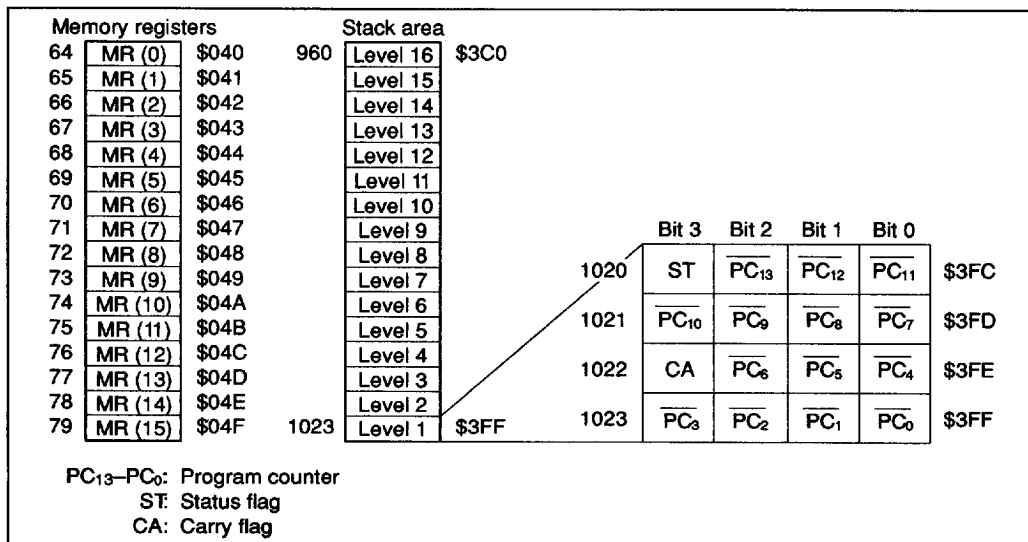

Figure 8 Configuration of Memory Registers and Stack Area, and Stack Position
Data Area (\$040-\$04F, \$0A0-\$24F): The memory registers (MR), which are within 16 digits (\$040-\$04F), can also be accessed by the LAMR and XMRA instructions (figure 8).
Stack Area (\$3C0-\$3FF): Used for saving the contents of the program counter (PC), status flag (ST), and carry flag (CA) at subroutine call (CAL or CALL instruction) and interrupts. This area can be used as a 16-level nesting subroutine stack in which one level requires four digits. The stack area and data to be saved in it are shown in figure 8.